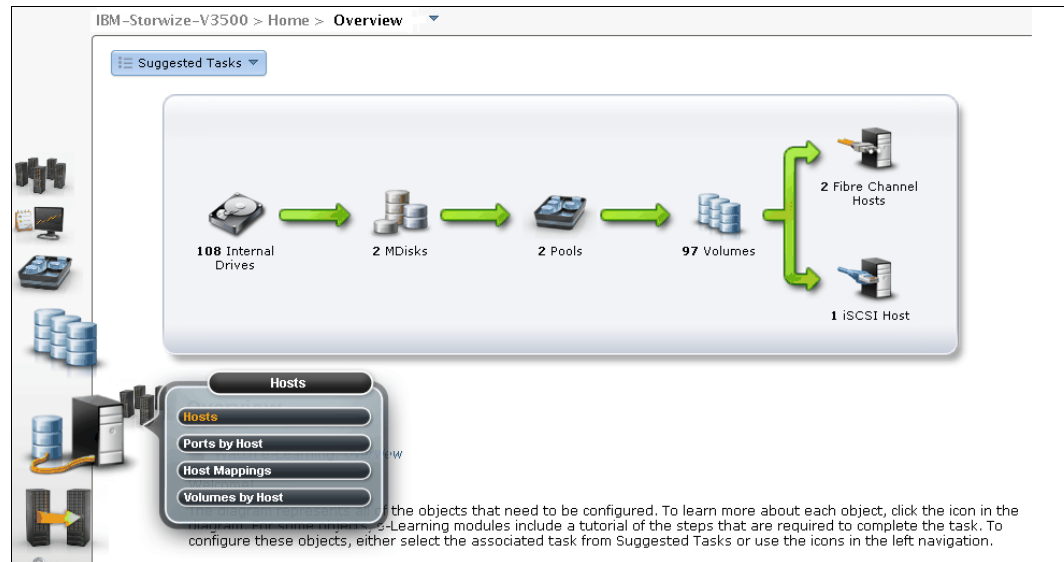

Figure 4-30 Configuration: Network
1. Switch to the Configuration window and select **Network**, as shown in Figure 4-30.